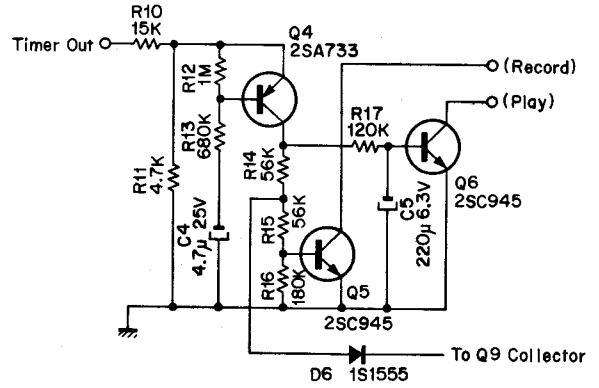

Fig. 2.2.3
(3) Q4, Q5, Q6 (DS-200 only)
Refer to Figs. 2.2.3 and 2.2.4. When Timer Switch is positioned ON, power supply is applied to a Flip-Flop explained in the item (4).